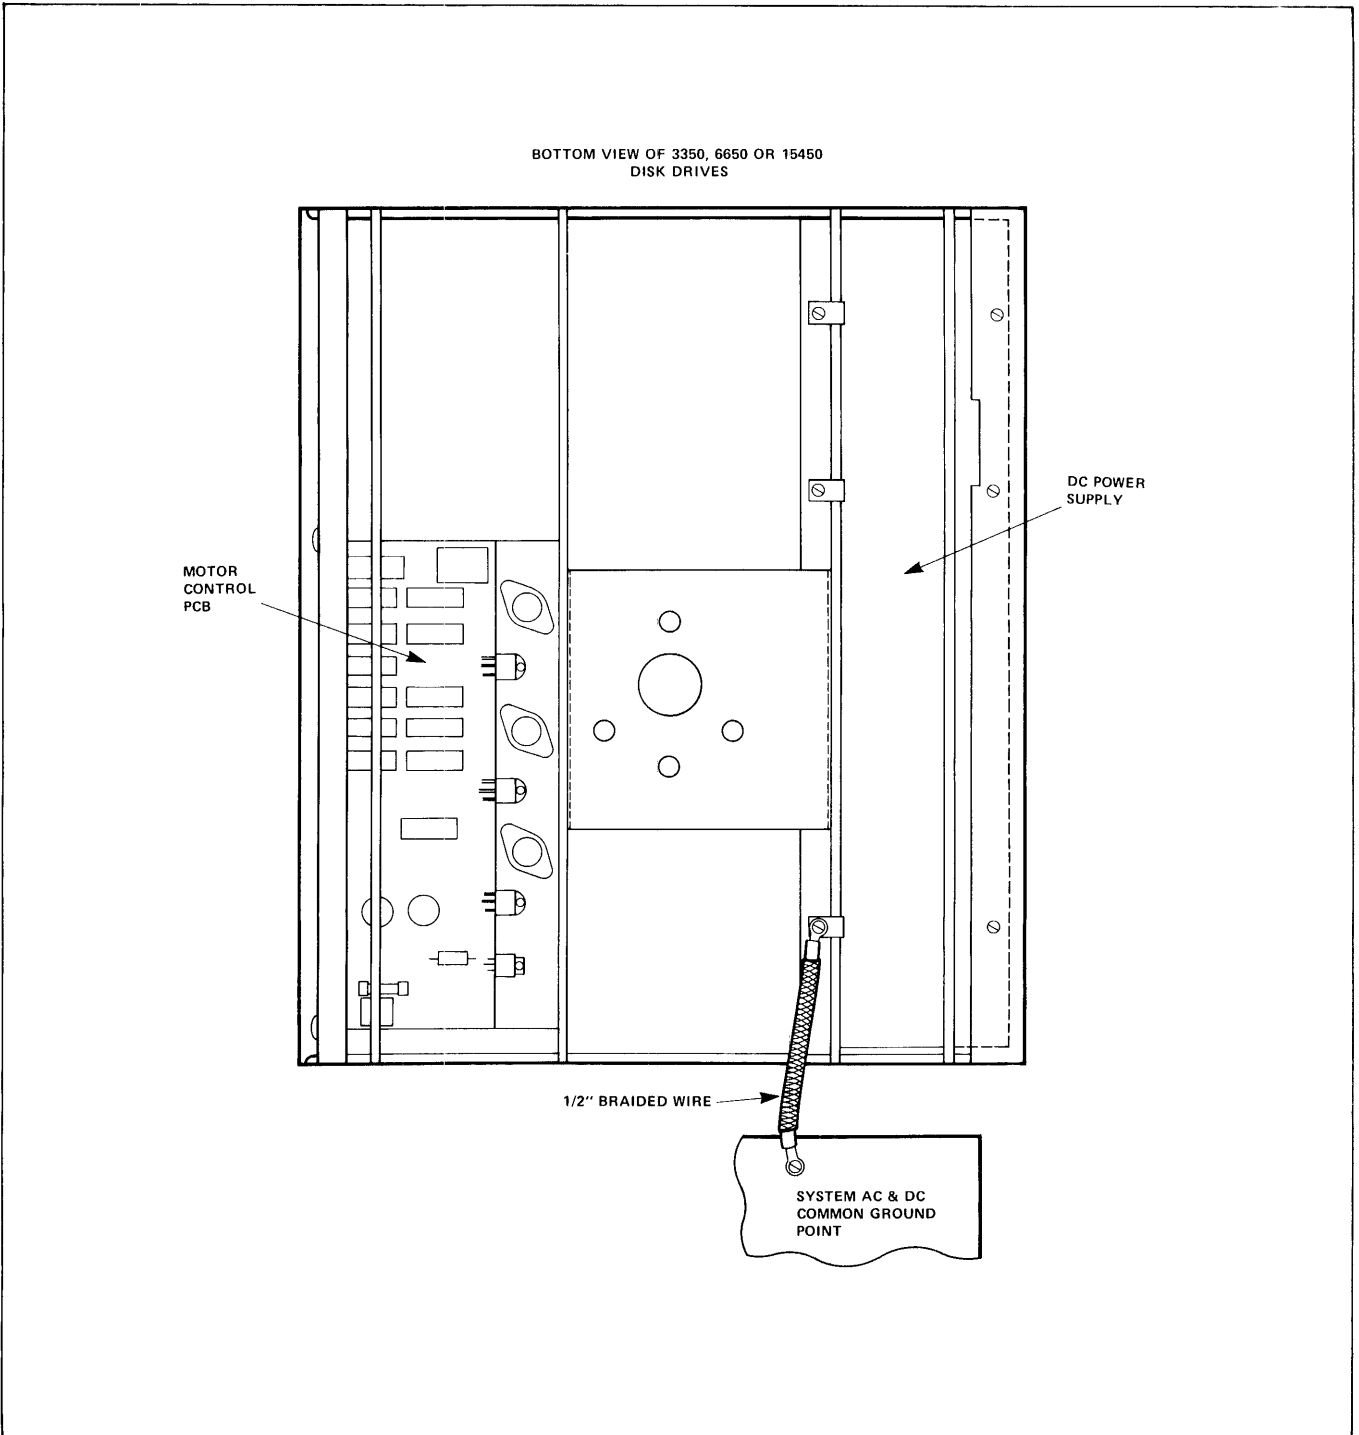

Figure 4-25. Recommended System Grounding
4.8 System Grounding. PRIAM recommends an AC grounding scheme as shown in Figure 4-25.